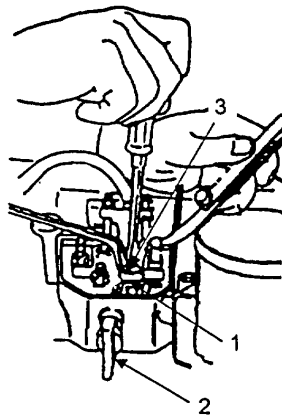

FIGURE 5-31. TAPPET ADJUSTMENT
- c. Check clearance between rocker and valve stem with a feeler gauge. Tappet clearance cold should be 0.004 inch (0.10 mm). To correct clearance, loosen nut (2).
- d. Adjust screw (Figure 5-31, Item 3) with a screwdriver until feeler gauge can be pulled between rocker and valve stem with very slight resistance after nut (2) has been tightened